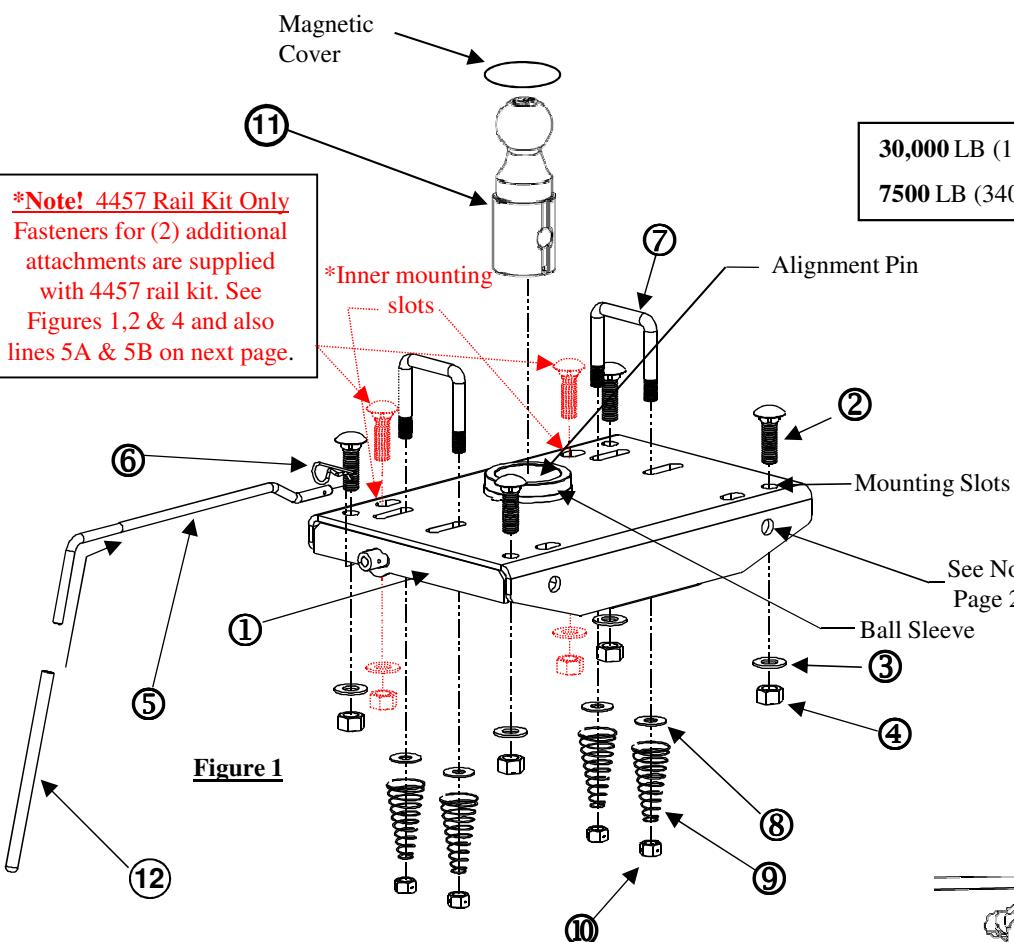

Figure 1
Fasteners for (2) additional attachments are supplied with 4457 rail kit. See Figures 1,2 & 4 and also lines 5A & 5B on next page.
9. From under the truck, install the 1/2" flat washers, U-Bolt springs, and 1/2" lock nuts (SEE FIGURE 1 AND 2). Tighten nuts so a minimum of 3 threads are showing past the nuts.